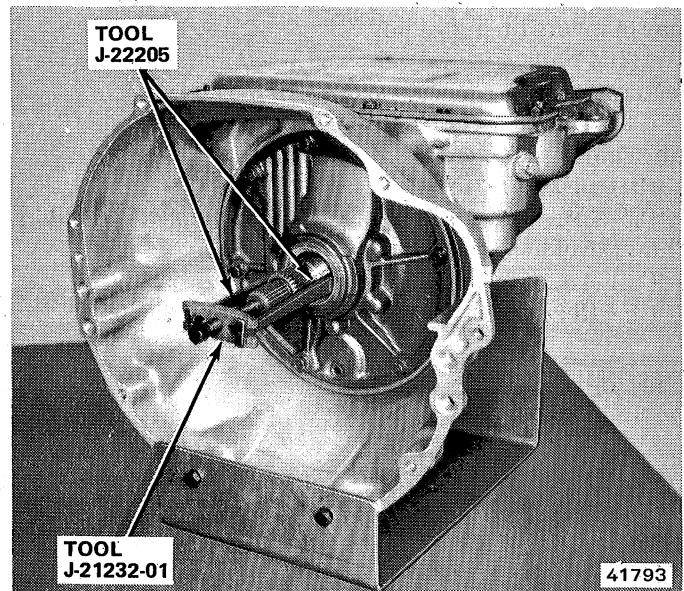

Fig. 2C-34 Oil Pump Seal Removal
- (16) Remove bolts attaching rear crossmember to transmission.
- (17) Remove rear crossmember.
- (18) Lower transmission slightly and disconnect oil cooler lines at transmission.
- (19) Remove bolts attaching transmission to engine.
- (20) Move transmission and converter rearward to clear crankshaft.
- (21) Hold converter in position and lower transmission assembly until converter housing clears engine.
- (22) Remove transfer case from transmission.
- (23) If necessary, the following items can now be serviced:
- Oil Pump Seal (figs. 2C-34 and 2C-35)